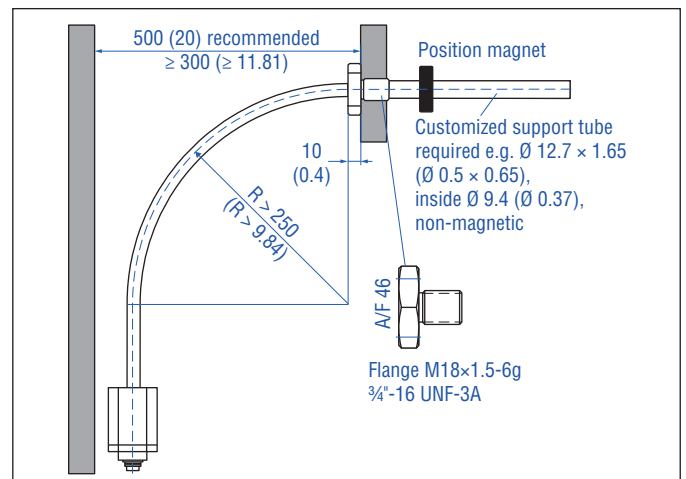

Fig. 33: Clearances for installation
1. Always insert the flexible sensor rod in a support tube (e.g. pressure rod HD / HL / HP or HFP profile). The support tube with an inside diameter of 9.4 mm (0.37 in.) consists of non-magnetic material. The support tube can be straight or bent (note the bending radius in Fig. 33).
3. Note the minimum distance to a spatial limitation of 300 mm (11.81 in.), when mounting / dismantling the sensor (Fig. 33).